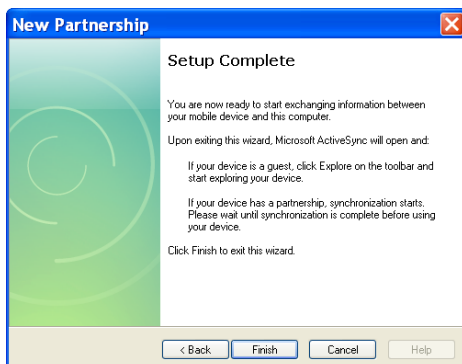

Figure 4-5. Microsoft ActiveSync
7. Click **Finish** to complete the setup. ActiveSync creates a folder on your computer desktop and attempts to synchronize the item types you selected with similar items on the FC-2500. For example, if you selected Files and placed a file in the My Documents folder on the FC-2500, ActiveSync transfers it to the desktop folder on the FC-2500 (Figure 4-5).